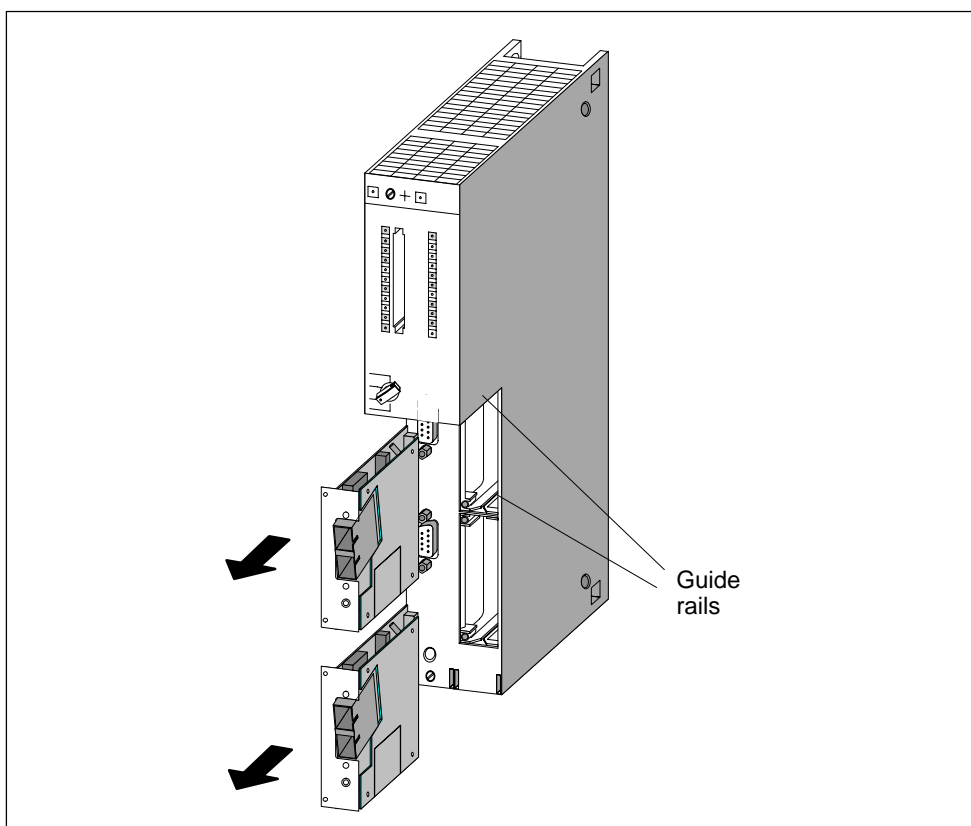

Figure 7-3 Inserting an Interface Submodule in a CPU
5. Carefully remove the interface submodule from the guide support of the card slot (see figure 7-3). Hold the interface module on the long sides of the front plate.